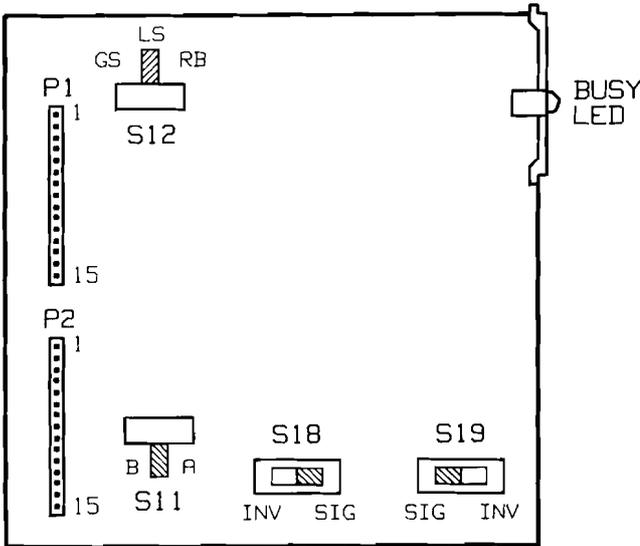

figure 2. 6008B option switch locations
3.03 The 6008B subassembly itself requires no alignment. Before the 6008B is placed into service, however, four option switches on the subassembly itself must be set. One is a three-position slide switch, and the other three are two-position slide switches. (Two of the three two-position switches are miniature; the other is standard size.) Figure 2